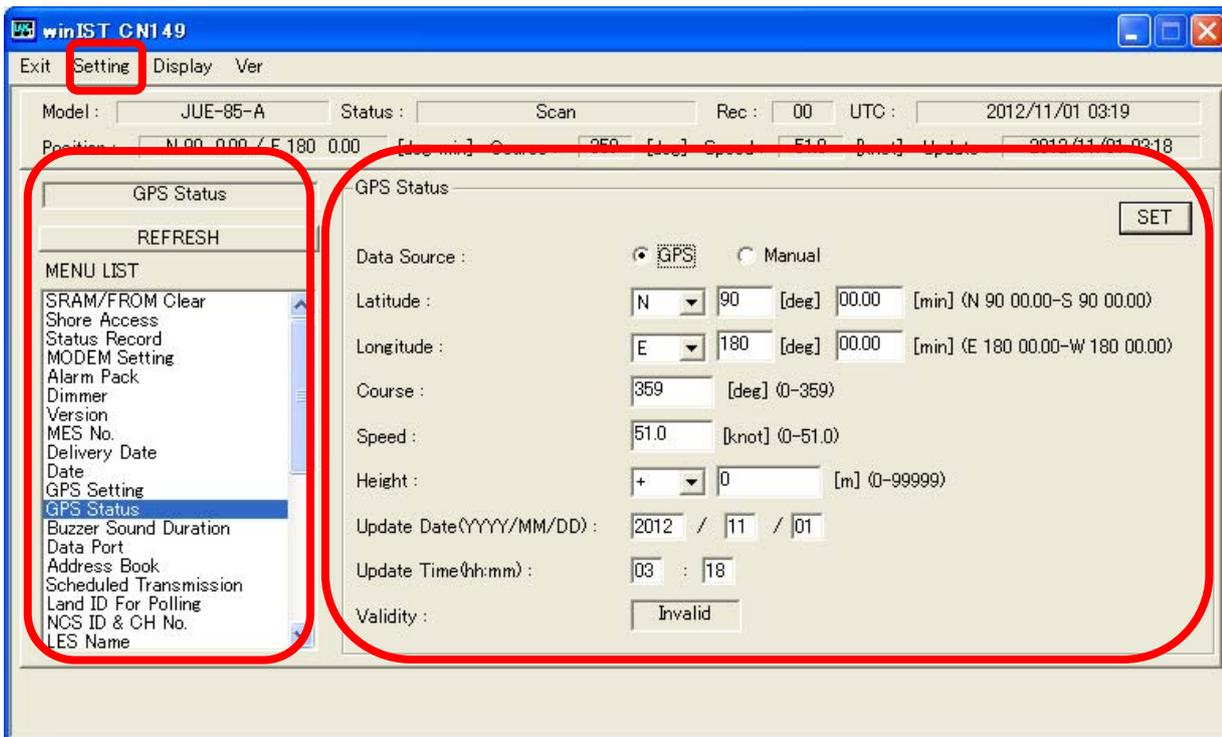

Fig. 4-13-1 [GPS Status] screen
2.Operation except [Exit], [Display], and/or [Ver] is not possible while winIST is communicating with INMARSAT terminal(the function in the frame of **Fig. 4-13-1 [GPS Status] screen** cannot be operated.)
7. Operation except [Exit], [Display], and/or [Ver] is not possible while winIST is communicating with INMARSAT terminal (the function in the frame of **Fig. 4-13-1 [GPS Status] screen** cannot be operated).